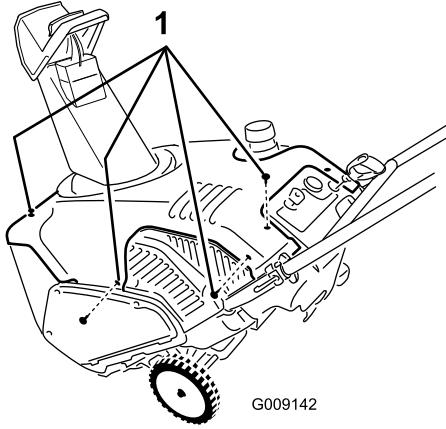

Figure 28
- Remove and save the fasteners that secure the shroud as shown (Figure 28).